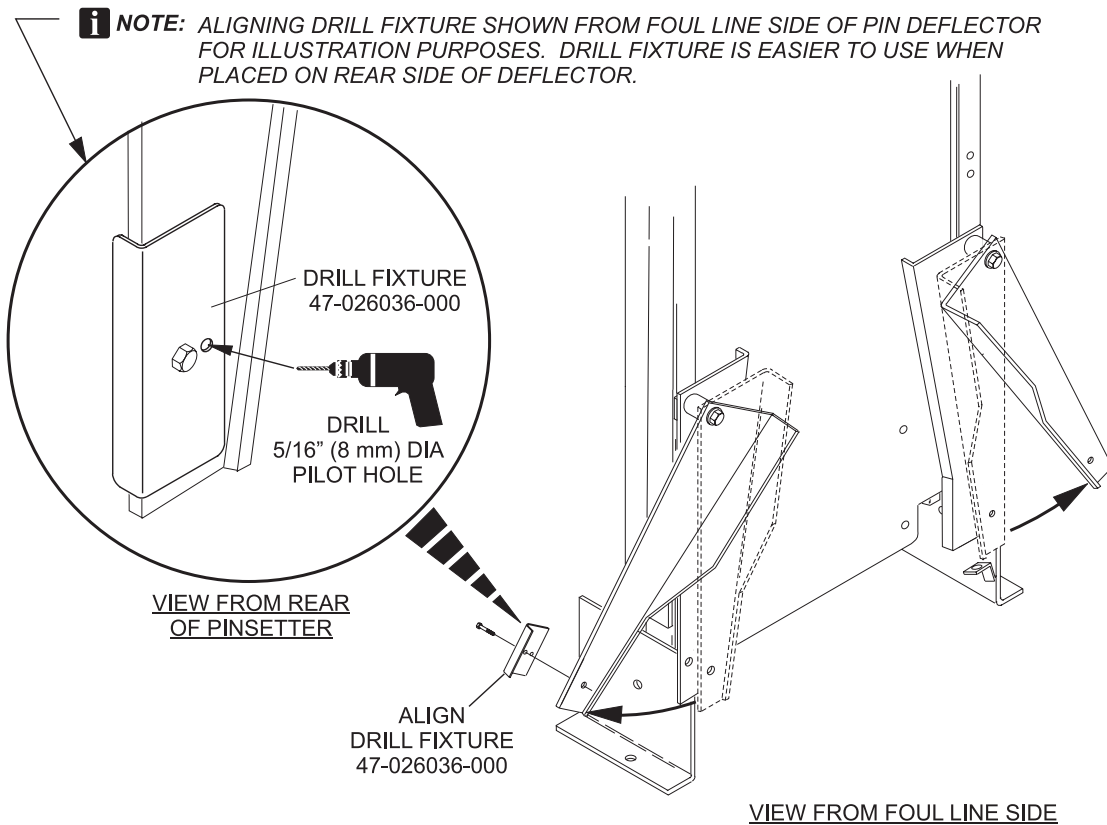

Figure 3
- Pivot elevator pin deflectors out to the side of the elevator and align drill fixture as shown. Refer to *Figure 3*.